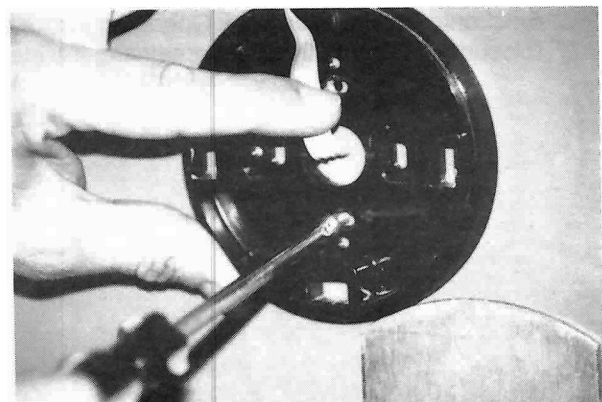

Figure 10
15. Install the housing base using two (2) #8 screws. Refer to the photograph in Figure 10.